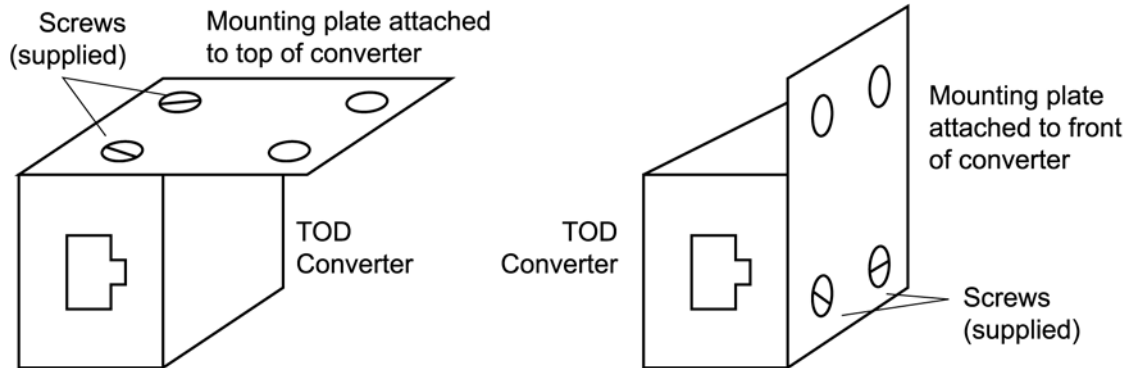

Figure 3-19. RS-422 to RS-232 TOD Converter Mounting Plate
1. Secure the provided mounting plate to the RS-422-to-RS-232 TOD converter using the two provided screws. The plate may be attached to the top or front of the converter, depending on the desired surface (for example, a rack or cabinet) to which the converter will be mounted (see Figure 3-19).